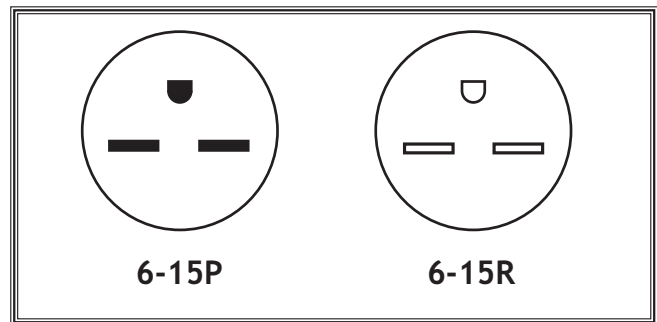

Figure 9a. NEMA 6-15 plug and receptacle.
2. Install a NEMA 6-15 plug and receptacle (see **Figure 9a**).
The W1714 is pre-wired for 220V operation. If you intend to operate the saw at 220V, you will need to install a NEMA 6-15 plug and receptacle shown in **Figure 9a**. To convert to 110V operation, unplug the saw and install the following items: